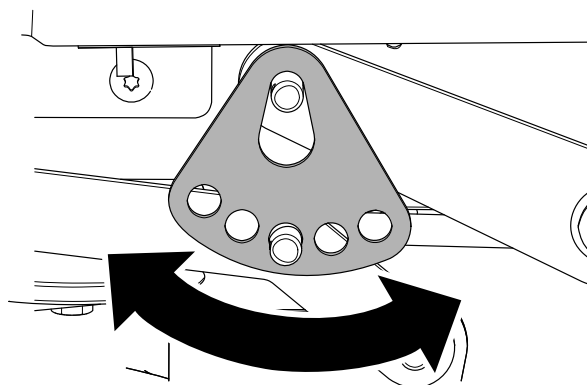

Figure 57
7. Rotate the height of cut plate to a different hole so that it supports the weight of the mower deck after the plate is installed (see Figure 57).
8. Install the washer and hairpin cotter (Figure 57).